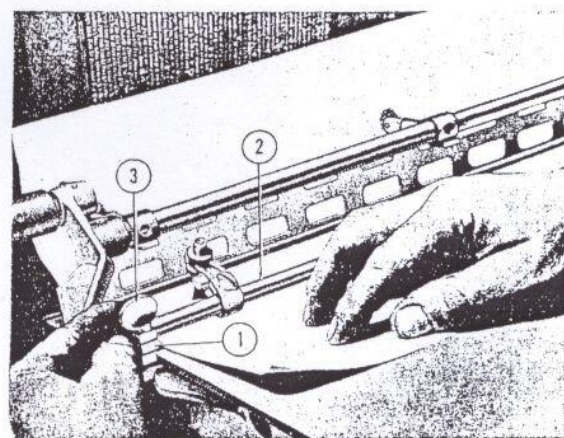
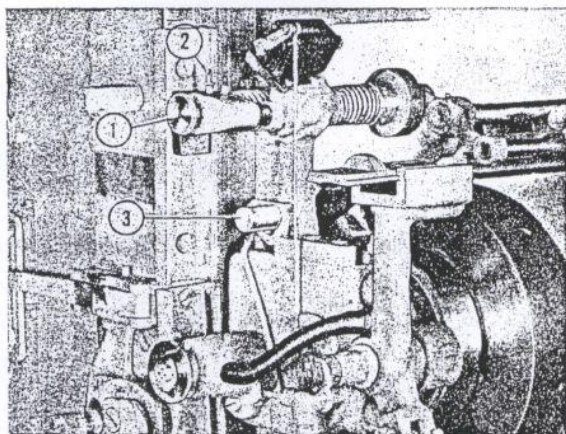

Figure 22—Setting Side Guide
Figure 23—Side Guide and Cylinder Brush Adjustment
(2) HOW TO POSITION SIDE GUIDE SHIFTING CAM AND SET SIDE GUIDES.—The left and right side guides, (1) figure 22, which attach to the side guide tube, (2) figure 22, are adjustable along the tube. Either the left or the right side guide is used, depending upon the particular job to be run. The position of the side guide along the side guide rod is dependent upon the side register requirements as measured from the form for the particular job to be run. A scale along the front edge of the transfer
(e) With sheet in this position, set side guide, (1) figure 22, against the side of sheet and tighten side guide thumb screw (3). A side guide micro-meter adjusting screw, (2) figure 23, is provided for
finer side guide register. When this adjustment is used, be sure that the setting is locked by tightening thumb screw, (2) figure 23. Slide and secure opposite side guide (not to be used) to opposite end of side guide rod.
To adjust the brush tension, loosen the set screws, (3) figure 23, on each side of the cylinder frame, permitting the brush rod to be turned. To check the tension, place a sheet to be run on the cylinder packing; revolve the cylinder by hand until the sheet is in contact with the brush, and then move sheet. Brush tension on the sheet should be uniform across the full width of the sheet. After brush has been adjusted, tighten set screws.